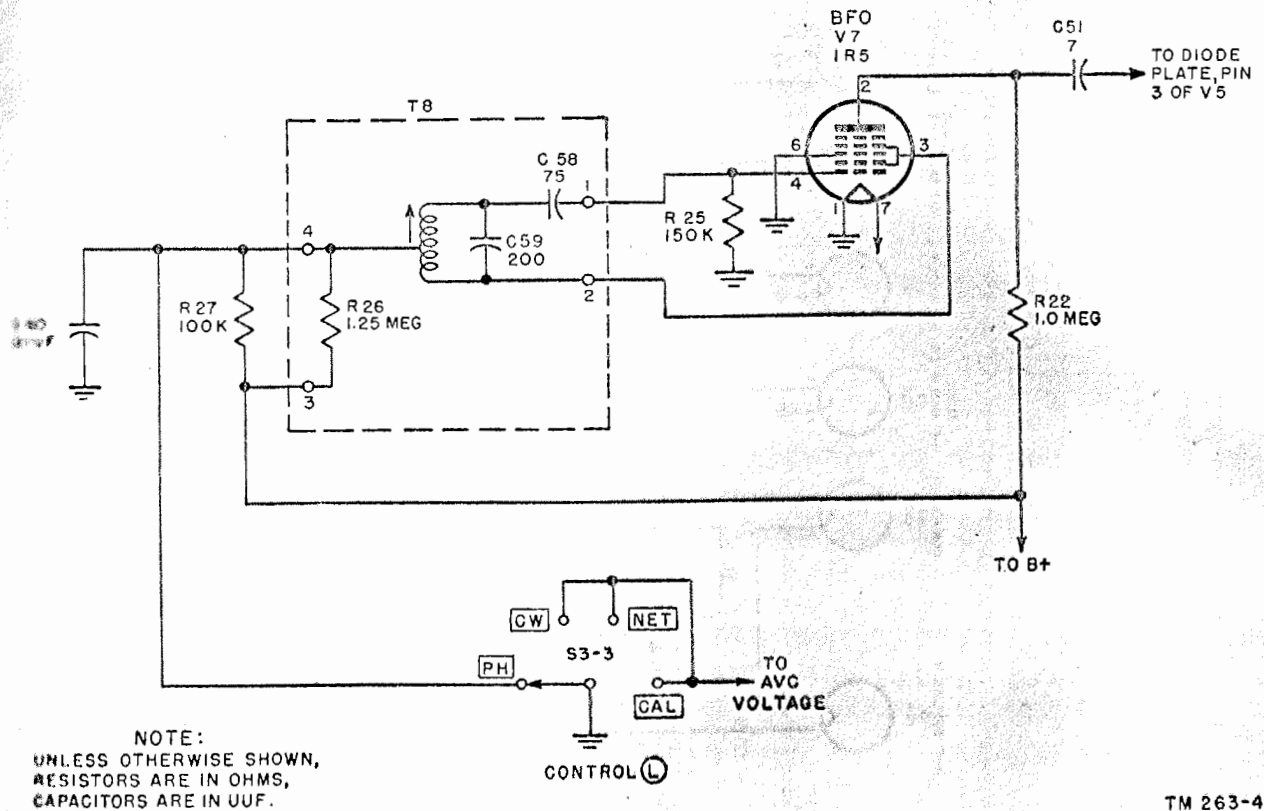

Figure 63. Beat-frequency oscillator.
88. Beat-frequency Oscillator (fig. 63)